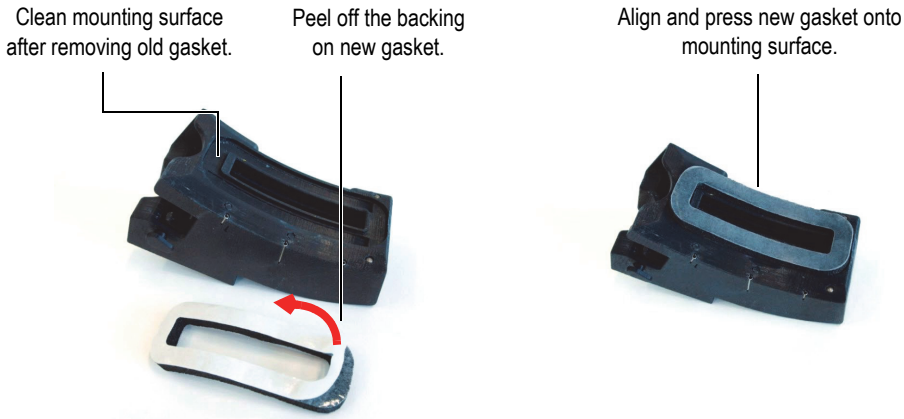

Figure 5-3 Changing the foam gasket
1. Pull off the old gasket, and, if necessary, carefully clean the mounting surface (see Figure 5-3 on page 51).